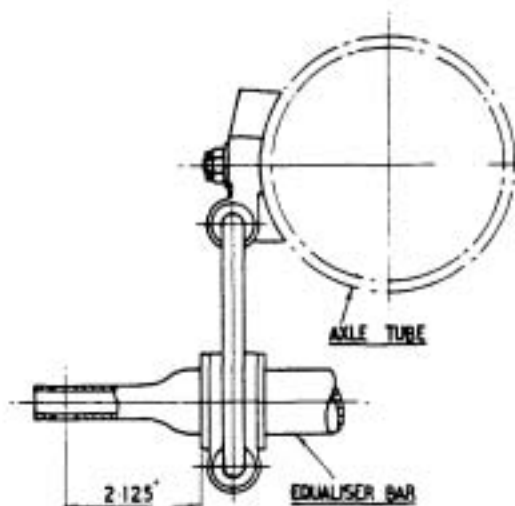

FIG. 2. FINAL POSITION FOR
- (3) Thread on the new support assembly from the front end of the equaliser bar, and slide the assembly along the bar until the outer face of the silentbloc bush is exactly $2\frac{1}{25}$ " distant from the centre of the bolt hole at the rear of the bar (See Fig. 2. above). Due to the interference between the rubber bush and the bar, it is recommended that some form of lubricant, e.g. French chalk or soap, is used to facilitate sliding the assembly along the bar.
- (4) Fit the upper bracket to the existing stud on the axle tube, replace the existing plain washer (distance piece), and then secure by means of the thinner castellated nut provided, locking this by fitting a new $1/16$ " split pin. Reconnect the equaliser bar.